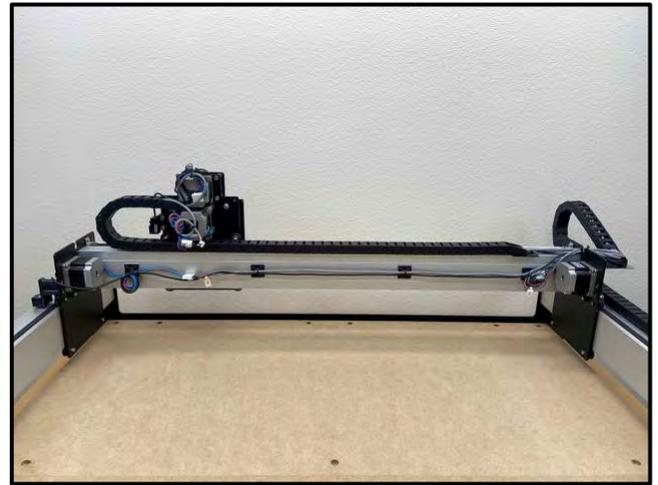

Figure 23
1. Tidy up the cables along the rear of the X-rail. See *Fig. 23*.